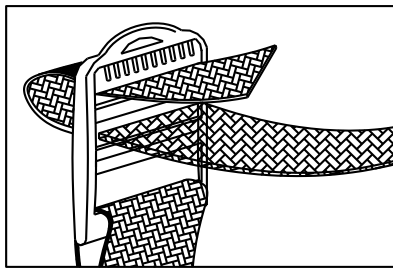
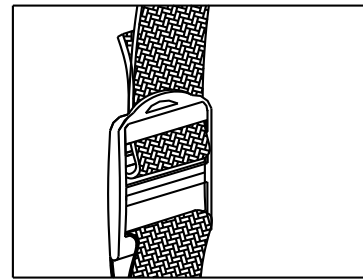

FIGURE 2
FIGURE 3
- A. Insert LOWER PITCHBALL FRAME (TWO COMPRESSED ENDS) WITH FOAM (H) to UPPER PITCHBALL FRAME WITH FOAM (G).
- B. Attach the Frame assembled in PART A above with F-SHAPED SUPPORTING TUBE WITH FOAM (I) with 2 pieces of BOLT (K) and 2 pieces of ARC WASHER (N) with the ALLEN WRENCH provided for the trampoline.
C. Attach the PITCHBALL GOAL (P) to the Frame assembled in PART B above as shown below. Secure the Strap onto the PITCHBALL GOAL as shown below following FIGURE 1, then FIGURE 2 and FIGURE 3 and secure them in the sequence shown in FIGURE 4.